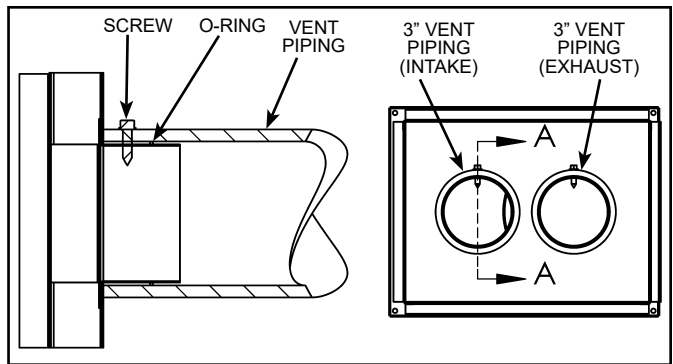

Figure 26.
2. Thoroughly inspect the vent termination for any damage (see Figure 26).
4. Drill 7/64" pilot holes for a #8 screw (see Figure 26). Take care not to damage the O-ring.
5. Secure the vent piping to the air box with screws (see Figure 26).